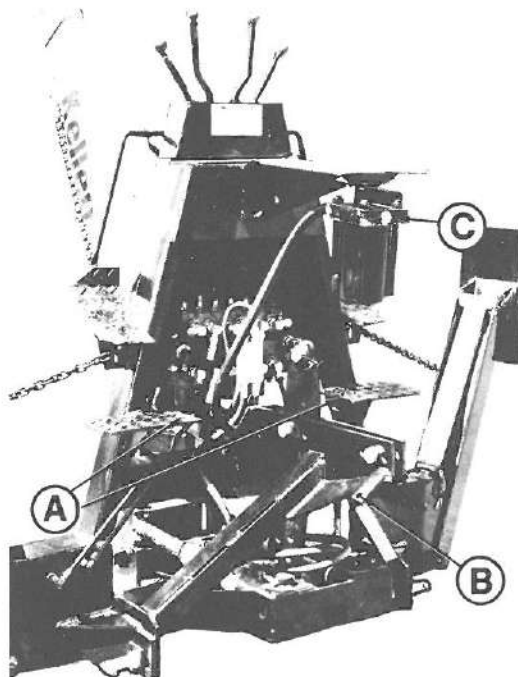

Figure 1
- a. Attach the reservoir to the backhoe by bolting it through the four holes drilled in the step plates. Use the 5/8" capscrews, lockwashers, and nuts. The holes are located at A of Figure 1.
- i. Attach the free end of the torque chain to either the chain tab on the backhoe frame (B of Figure 1) or a fixture of the tractor. Use the remaining 3/8" hardware in the same manner as above.
3. Remove the plug from the oil filter (C of Figure 1) and discard.